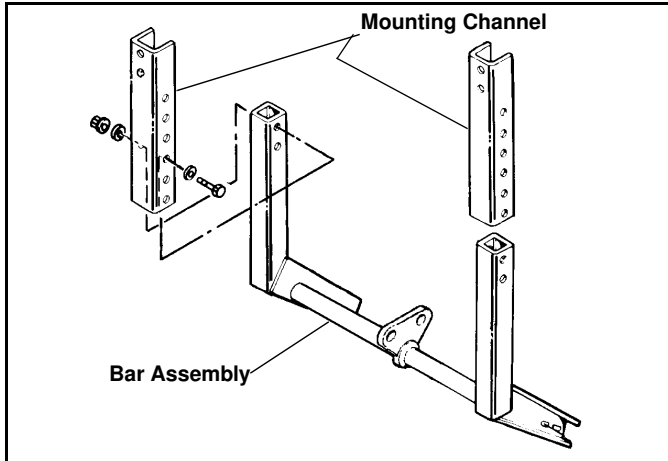

Figure 4
6. Attach Mounting Channels (#18) to Lower Bar Assembly using four (4) 3/8" x 3" Cap Screws (#21), Washers (8 required) and Nylock Nuts Provided. (See Figure 4)